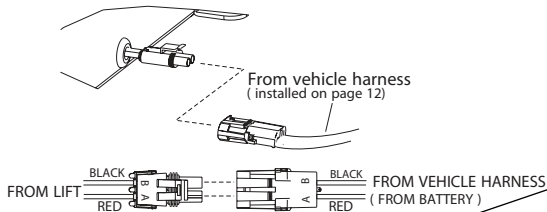

Figure 26-2
7. Connect to vehicle harness. [Figure 26-2]